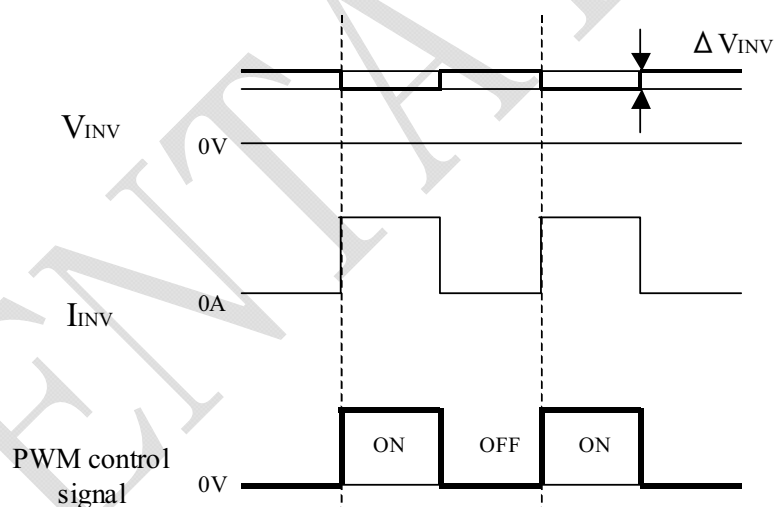

Fig.4 Brightness control voltage.
c) Brightness control voltage is switched for “ON” and “OFF”, as shown in Fig.4. Voltage difference generated by this switching, ΔV_{INV} , may affect a sound output, etc. when the power supply is shared between the inverter and its surrounding circuit. So, separate the power supply of the inverter circuit with the one of its surrounding circuit.